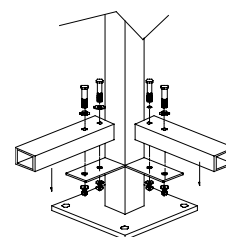

Figure: 5
- e. If you have lower cross beams on your enclosure, they attach to flanges near the bottom of the column (s) and are designed to fit between columns. (See figure 5)